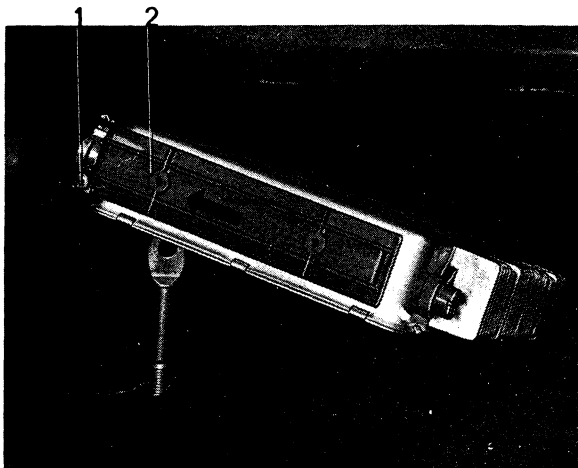

Fig. 2-86. Removing control unit
3. Remove the screw (1, Fig. 2-86) for the cap holding the cable harness to the control unit.
4. Pull out the plastic cover strip (2, Fig. 2-86).